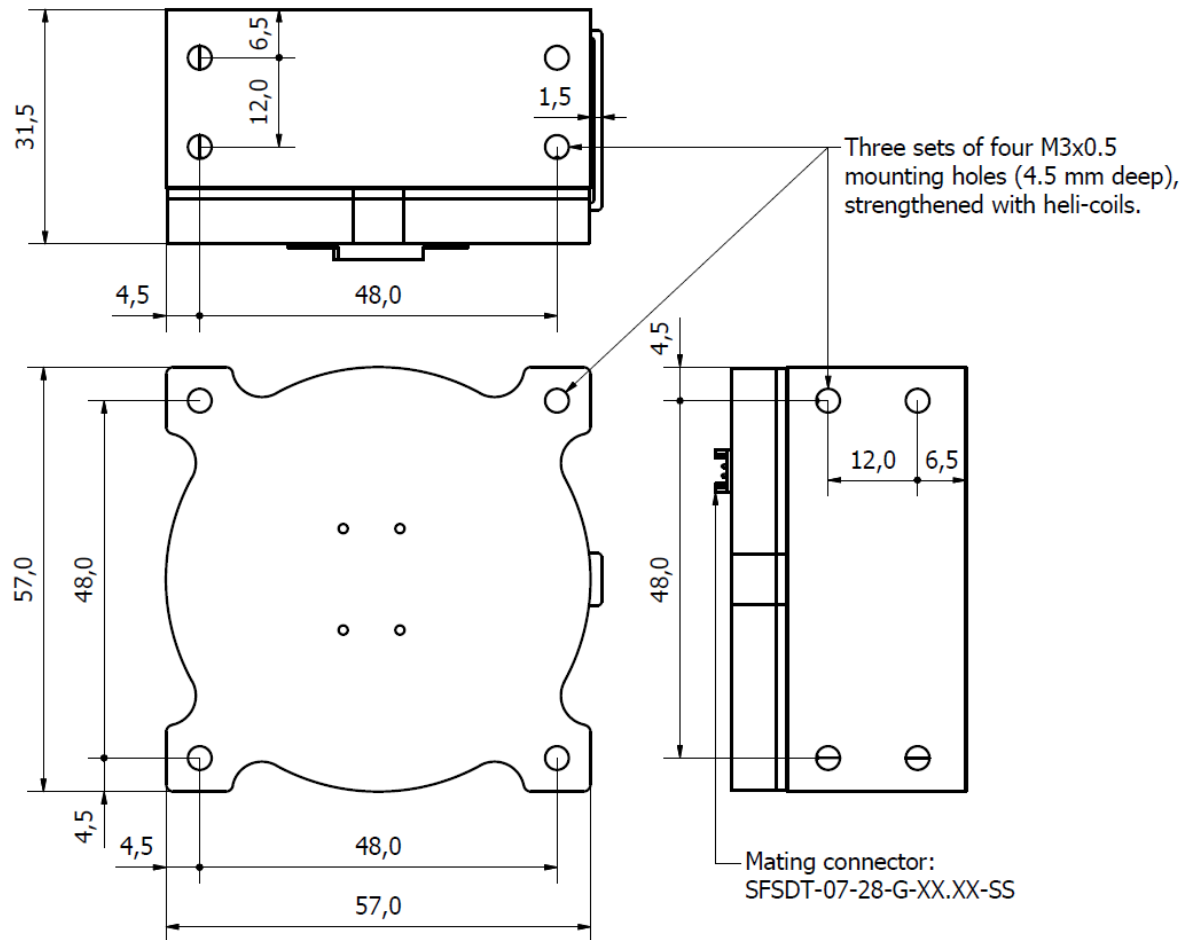

Figure 8 – Large CubeWheel mechanical interface
The Large CubeWheel unit has two sets of four M3 mounting holes on two different facets, as illustrated in Figure 8. The outer dimensions of the Large CubeWheel are 57 mm x 57 mm x 31.5 mm. Note that an additional 1.5 mm is required on one side of the CubeWheel for internal harnesses. The M3 mounting holes will be fitted with A2 (304) stainless steel heli-coils to provide a stronger and more durable thread.